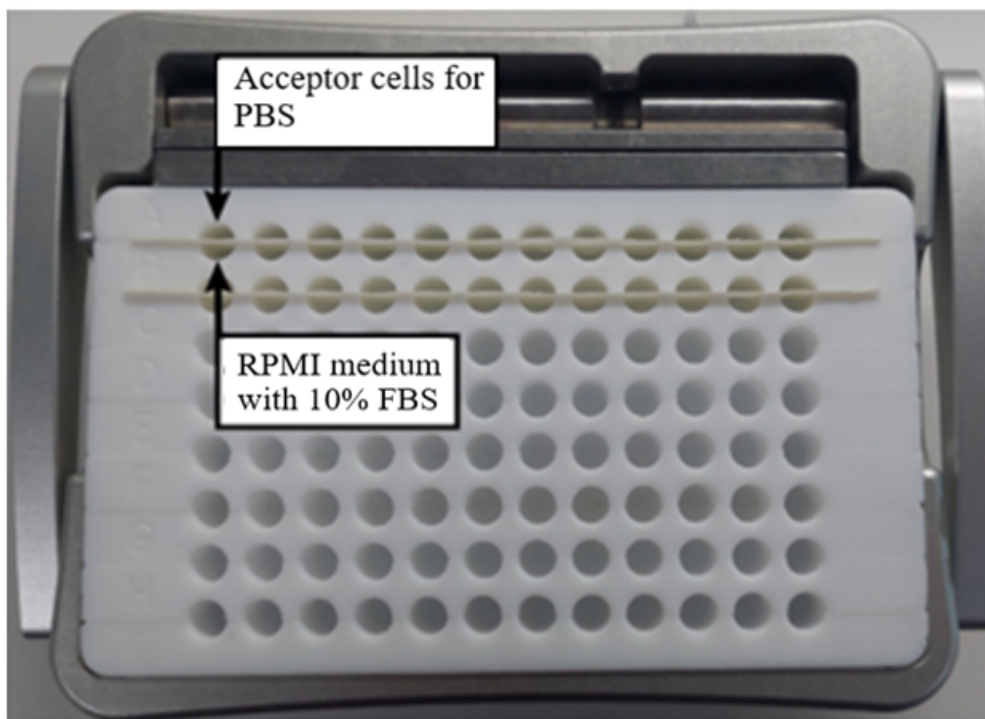

Fig 5. Schematic of a collective dialysis device
- 7.2 Add  125 μL of solutions of substances in RPMI medium with 10% FBS to the donor cells of the machine (Fig. 5). Add  50 μL each of model solution and PBS in the 'Stability' microtubes of the final 96-well plate. Quench the solution in microtubes 'Stability' with  400 μL IS solution, mix on a vortex and store at  4 $^{\circ}\text{C}$ until analysis.